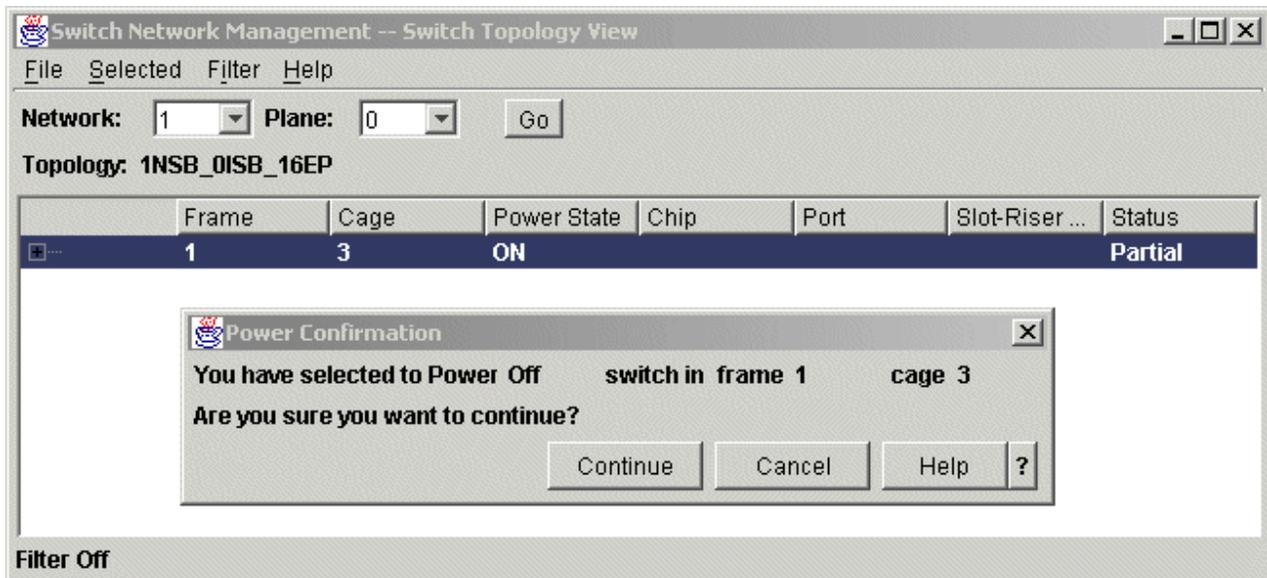

Figure 17 Switch Network Management: Switch power off screen
- ▶ **chswpower** - This command performs power on/off operations on the switch. You can do the same thing from the GUI interface, as shown in Figure 17.